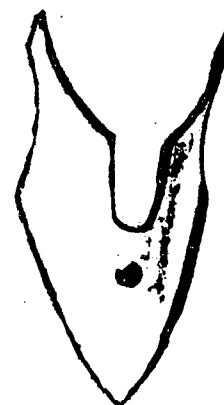

Fig. 5
- *Irrigating.* These are wide and have wings as mouldboards (Fig. 5).